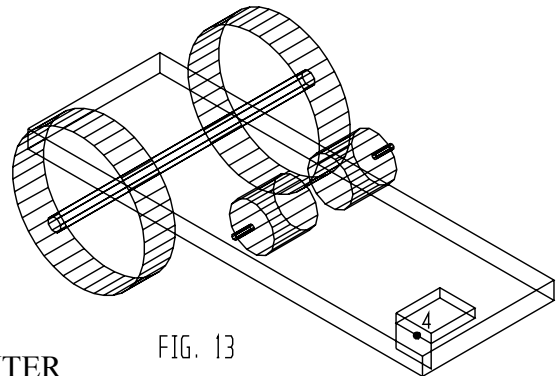

FIG. 13
Step 6. Click Line 4, **Fig. 13** and press ENTER.